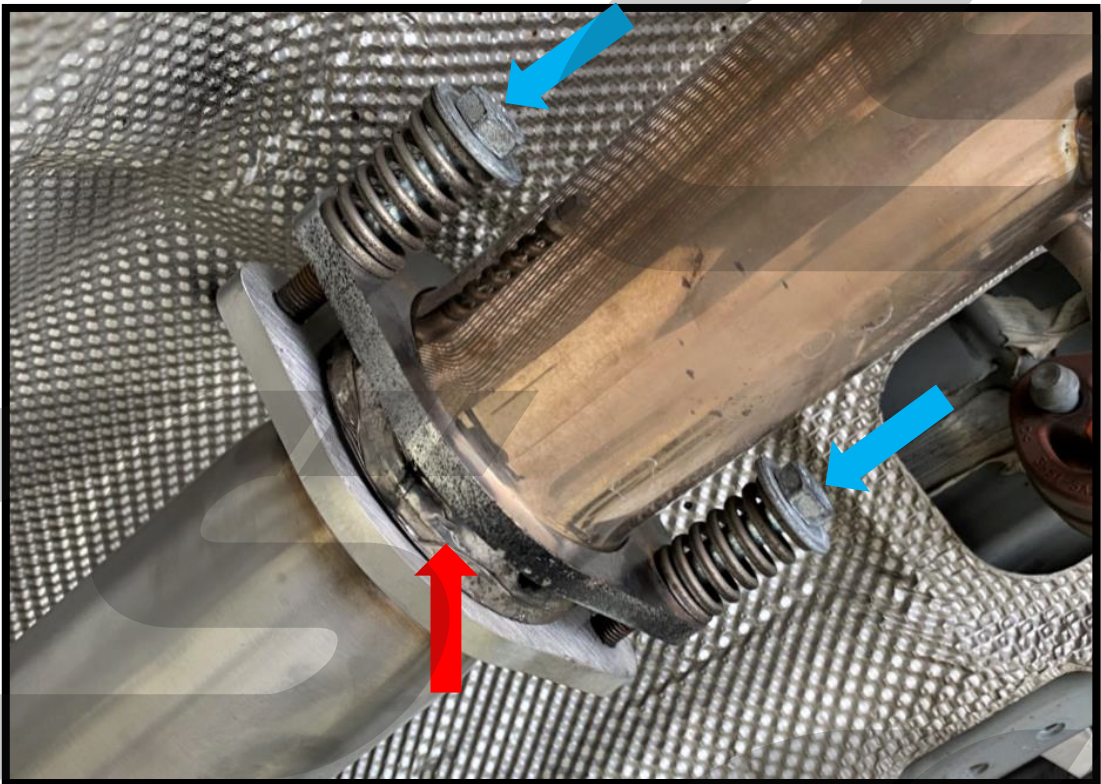

Figure 4f
- g) Install the supplied donut gasket onto the end of the CS 3.5" downpipe. Shown completed with **red arrow** in **Figure 4f**.
- h) Using the supplied hardware and OEM springs, attach the CS 3.5" downpipe to the midpipe of your exhaust. Tighten using a 17mm socket and ratchet until there is a ~1mm gap between the coils of the spring. Shown in progress with **blue arrows** in **Figure 4f**.